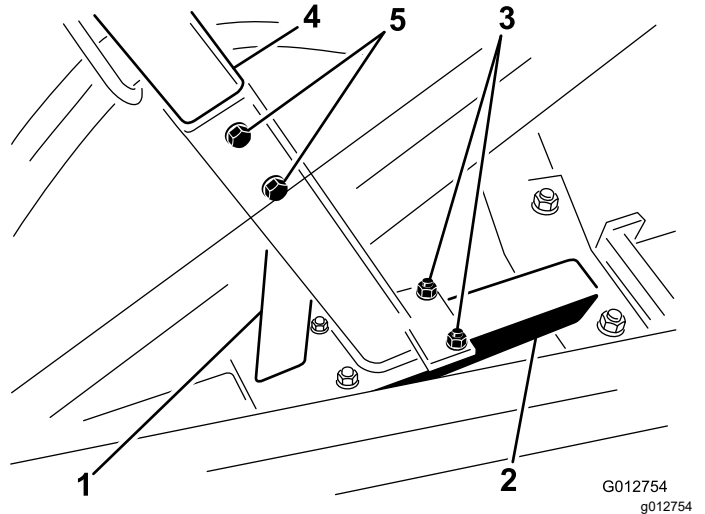

Figure 5
1. Loosely secure the lower control tower to the center frame tube with 2 U-bolts and 4 flange nuts (3/8 inch) as shown in Figure 5.
2. Mount the upper control tower to the lower control tower with 2 capscrews (3/8 x 2-3/4 inch) and 2 flange nuts (3/8 inch) as shown in Figure 5.